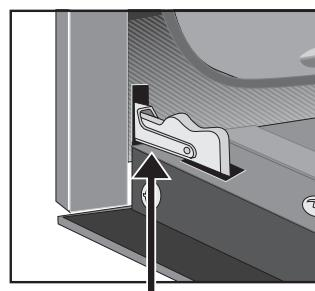

Figure 4
1. Open the door to the fully opened position (Figure 4).